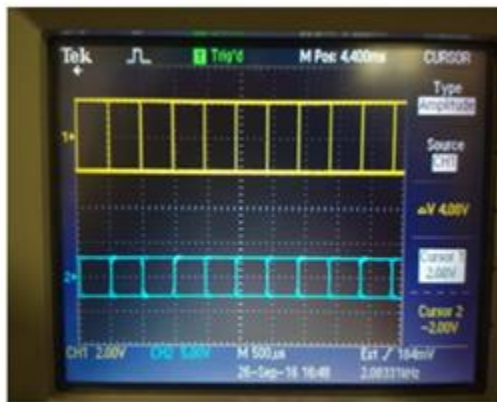
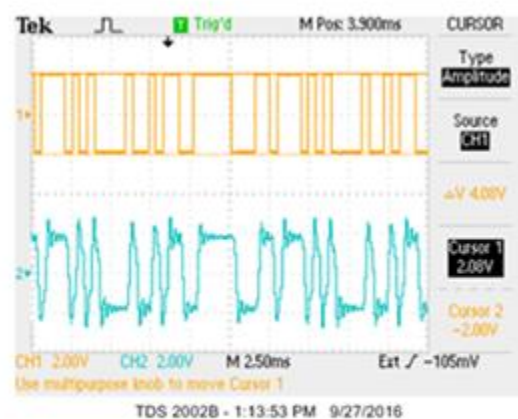

Figure 21: : Eye patterns when f_c is high
Figure 22: Eye patterns when f_c is high with STOP feature
3. In Channel 1, you will see eye-pattern corresponding to a non-distorted digital data. To see the underlying Line Code, you may have to use the RUN/STOP feature of the DSO (See Figure 22). You may note that the least duration a square box (Figure 21) corresponds to 1 bit duration. The line code output is a sequence of random levels of +2.0 V or -2.0V, corresponding to random bits sequence of "1"s and "0"s. *It is easy to understand that one can sample the waveform at any instant during the bit period and declare the presence of bit 1 or 0. This state is called as eye being completely open.*